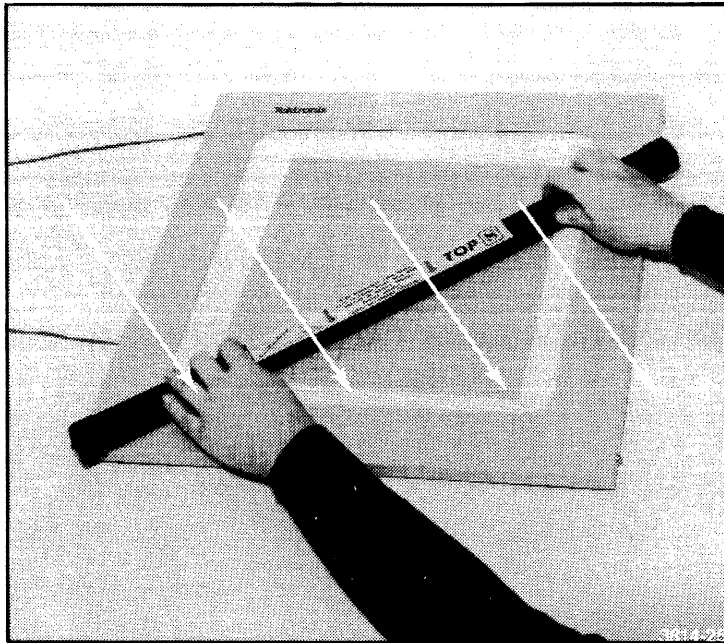

Figure 3-9. Restoring the Tablet's Bias.
3. Pull the magnet across the tablet from the upper left corner towards the lower right corner in a single, smooth motion (Figure 3-9). Wipe the entire surface in about two or three seconds.